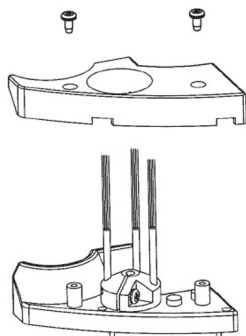

Fig 1
1. Remove the two bolts;(refer to Fig 1)